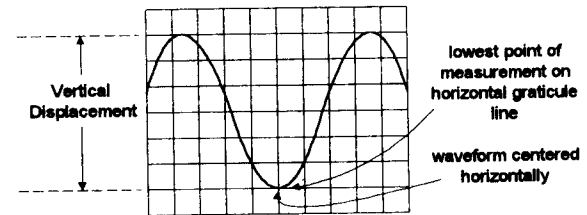

Fig. 6. Peak-peak voltage measurement
3. Adjust the V.POSITION control until the lowest point of the waveform falls on one of the horizontal graticule lines, keeping the waveform as close to being centered as possible. (see Fig. 6)
4. Note the number of divisions of vertical displacement between the upper and lower points of the waveform where measurement is desired, and multiply this times the setting of the VOLTS/DIV selector times the probe attenuation factor. For example, in Fig. 6 if the VOLTS/DIV selector was in the 5mV/div position using the